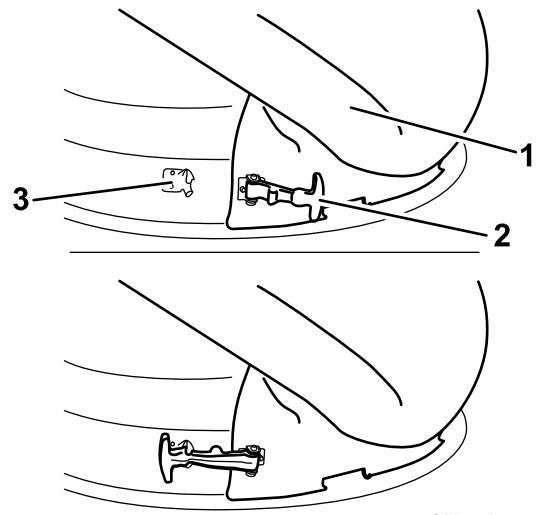

Figure 28
4. Secure the chute to the 50 inch deck by hooking the flexible latch on the chute to the retaining clasp welded on the mower deck (Figure 28).